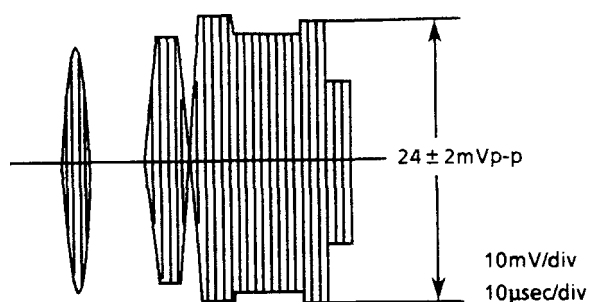

Figure 2-9.
3. Observing the waveform on the oscilloscope screen (external trigger at pin ⑨ of IC201 (video output)), take the following steps.
- c) Adjust R518 (recording chroma control) so that the red level be 24 ± 2 mVp-p as shown in Figure 2-9.